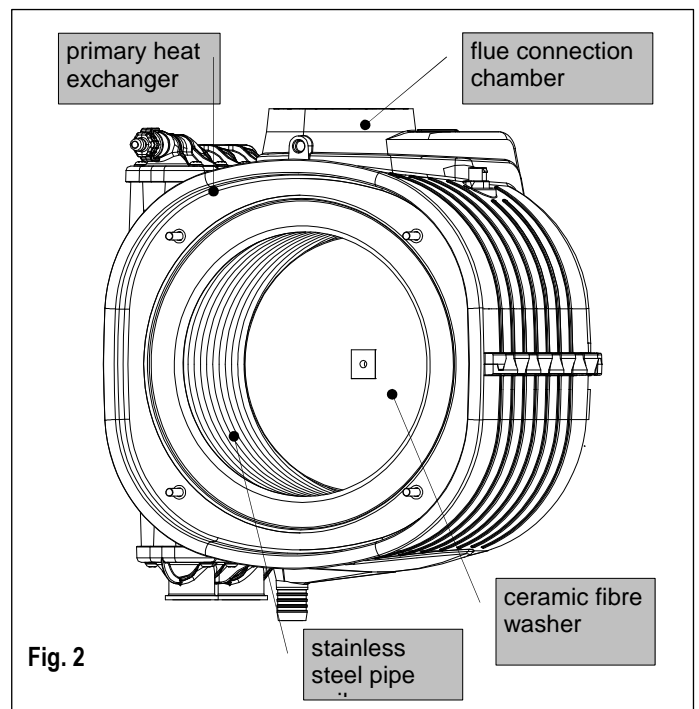

Fig. 2
- Clean the heat exchanger (see fig. 2) using a household detergent for stainless steel, distributing the product on the spirals of the exchanger using a brush. Do not wet the ceramic fibre coating. Wait a few minutes then remove the deposits using a non-metal brush. Then remove the residues under running water;
(see fig. 2)